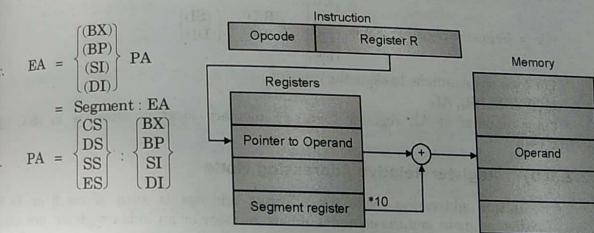

Fig. 12.2.5 : Register indirect addressing modes
12.2.3(B) Register Indirect Addressing Mode
- In this addressing mode the effective address of the memory may be taken directly from one of the base register or index register, specified by instruction. This address is added with the segment register * 10 H to generate the physical address as shown in Fig. 12.2.5.